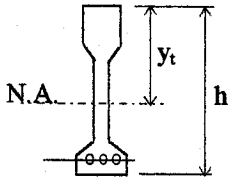

Fig. Q3 Post-tensioned beam data
- (b) The data in Fig. Q3 refers to a simply supported prestressed beam with a 14m span. At transfer, the beam is required to carry only dead load, G_k . All loads are uniformly distributed over the span. Using the Magnel approach, determine a suitable combination of initial prestressing force and eccentricity for the midspan section of the beam. Sketch the variation in profile over the span.